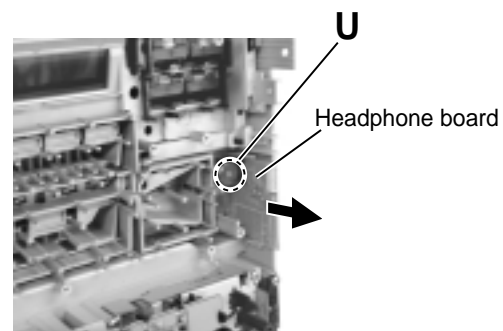

Fig.24
■ Removing the headphone board (See Fig.24)